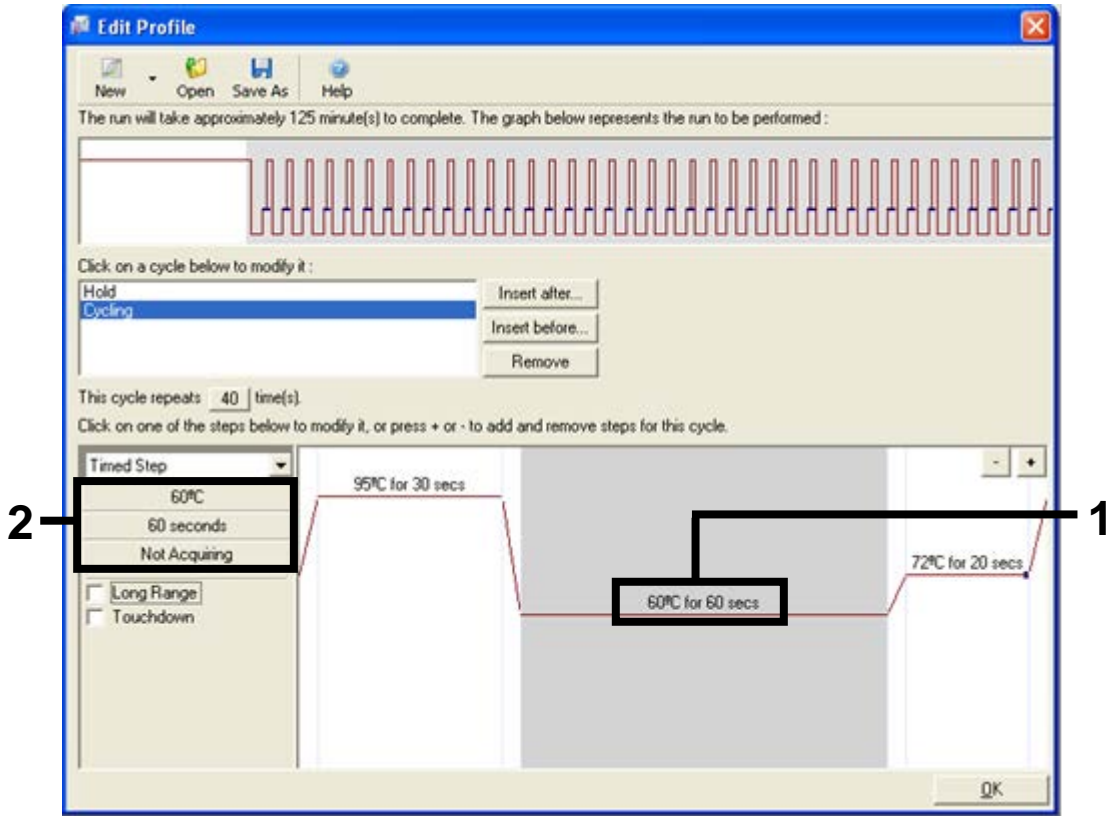

Figure 27. Cycling step at 60°C. (1 = Second step temperature and time setting, 2 = “Not Acquiring” button).
- 9. Highlight the second step and set to 60°C for 60 secs. Enable data acquisition during this step by selecting the “Not Acquiring” button (Figure 27).